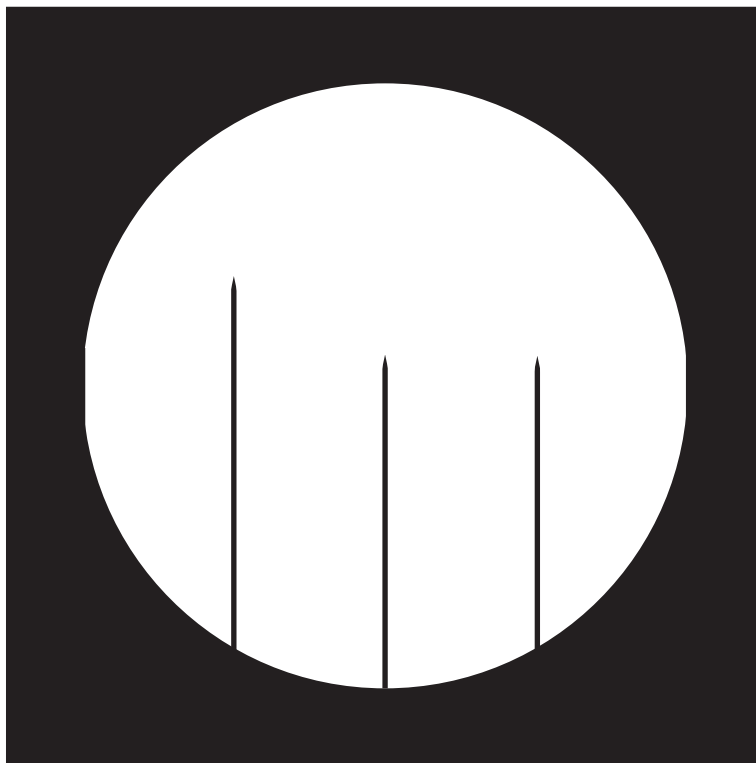
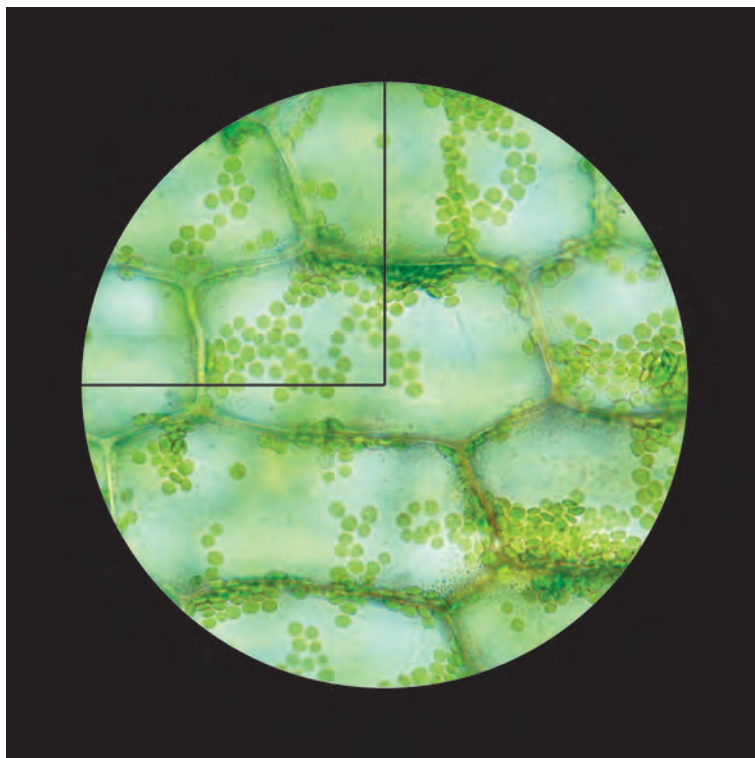
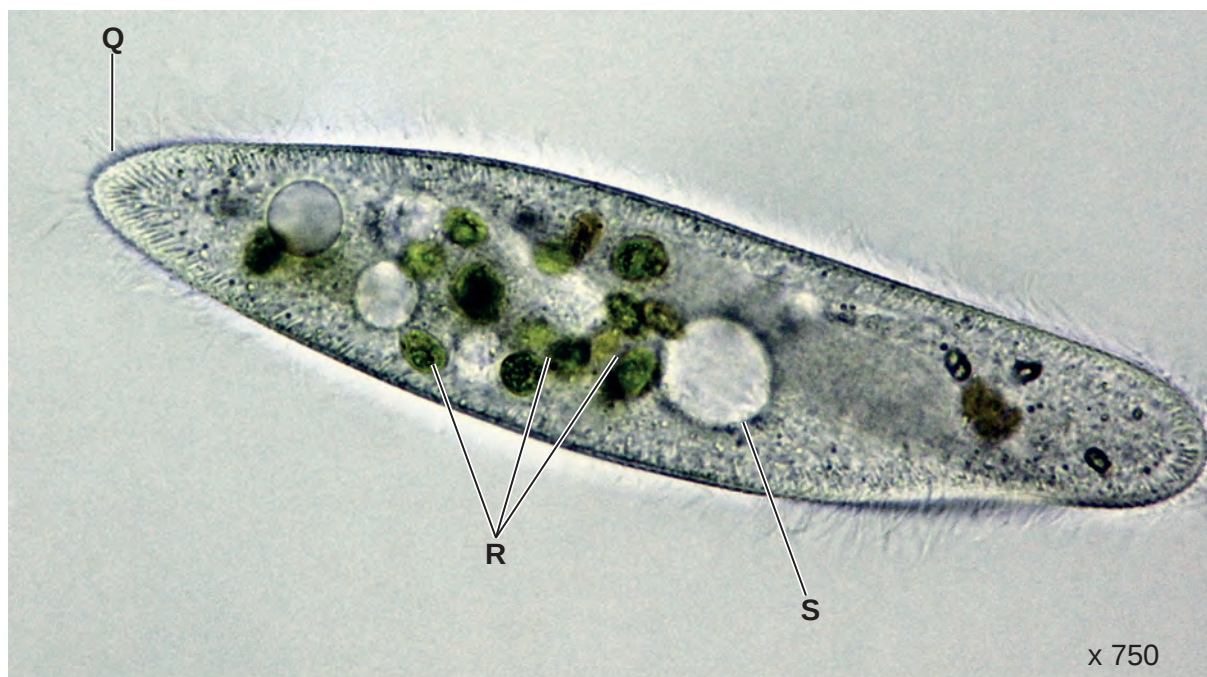

Fig. 2.2
Fig. 2.3
Fig. 2.4
Fig. 2.2 shows a photomicrograph of a stage micrometer viewed through a microscope.
- find the area of the field of view, using Fig. 2.2
- count the number of chloroplasts in a quarter of the field of view, using Fig. 2.3 (on page 14)
Fig. 2.3 is a photomicrograph showing leaf cells, with the same field of view as in Fig. 2.2.
Fig. 2.3 shows chloroplasts in leaf cells. There are too many chloroplasts to count, so the technique of sampling may be used to estimate the number of chloroplasts in the field of view.
- Mark clearly **on Fig. 2.3** each of the chloroplasts counted.
Fig. 2.4 is a photomicrograph of a one-celled organism which lives in fresh-water. You are not expected to have studied this organism. The organism has engulfed some green algae (R) which it uses for food.
- (c) (i) Prepare the space below so that it is suitable for you to record the observable differences between Fig. 2.3 and Fig. 2.4.
To help you some of the structures on Fig. 2.4 have been labelled with letters.